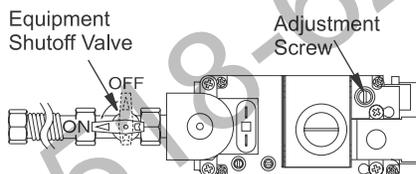

Figure 63 - Turning Equipment Shutoff Valve to the OFF Position
5. Turn equipment shutoff valve clockwise to the OFF position (see Figure 63). Do not force.
6. Wait five (5) minutes to clear out any gas. Then smell for gas, including near the floor. If you smell gas, STOP! Follow "B" in the safety information on page 32. If you don't smell gas go to the next step.